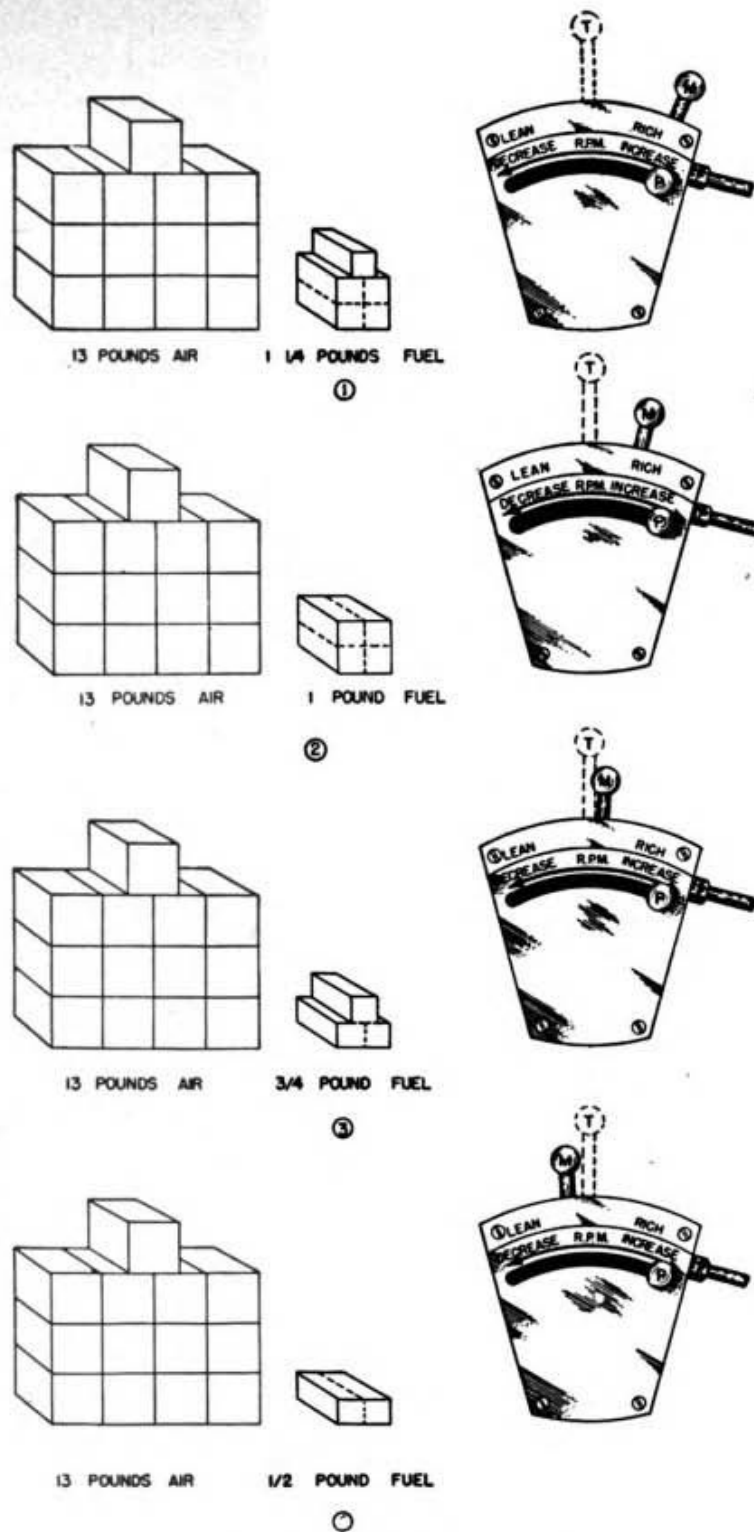

Figure 13. Effect of mixture control movement on fuel-air ratio.
b. Quality of fuel-air mixtures. To provide for variations in fuel, atmospheric pressure, and other operating variables, the carburetor is set to provide a slightly richer mixture than that which will give the best power. Adjustment of the mixture control lever from the FULL RICH position toward the LEAN or IDLE CUT-OFF position varies the amount of fuel delivered by the carburetor by controlling the fuel-air ratio. Intelligent use of the mixture control is of vital importance in maintaining safe and economical operation of the engine. The mixture control should never be used without a full understanding of its effect on engine operation, a knowledge of the characteristics of the fuel being used, and the general conditions under which the engine is operating. It is possible to damage an engine beyond repair in a few minutes by improper use of the mixture control. Too lean a mixture will overheat the engine and will possibly cause piston rings, pistons, and valves to stick or "freeze." Correct fuel-air ratio, that is the number of parts of air by weight as compared to the parts of fuel by weight, lies between 11 to 1 and 16 to 1. This ratio gives the proper mixture to produce maximum power. A ratio of 13 to 1 is generally selected as the desired ratio for normal operation. This weight proportion of air and fuel is necessary to promote proper combustion. With the mixture control lever as shown in figure 13①, the throttle in a fixed position, and the propeller pitch fixed, a movement of the mixture control from its FULL RICH position to a leaner position will cause an increase in engine rpm. The point at which this increase ceases is called the RICH BEST POWER position, figure 13②. Further leaning will maintain the rpm at the same value for an appreciable movement of the control. Still further leaning will cause a loss in rpm. The position of the mixture control at which this loss in rpm begins is called the LEAN BEST POWER position (see fig. 13③.) Figure 13④ shows the control set to produce further leaning of the mixture. This will cause detonation and result in horsepower and speed losses, proportional rises in engine failure. In this illustration it should be noted that the mixture ratio has risen tremendously. It must be understood that the illustrations in figure 13 show movement and not definite positions of the control lever. A knowledge of the various fuel-air mixtures is of importance to the operator. Those mixtures, their use and control are discussed in the following paragraphs: